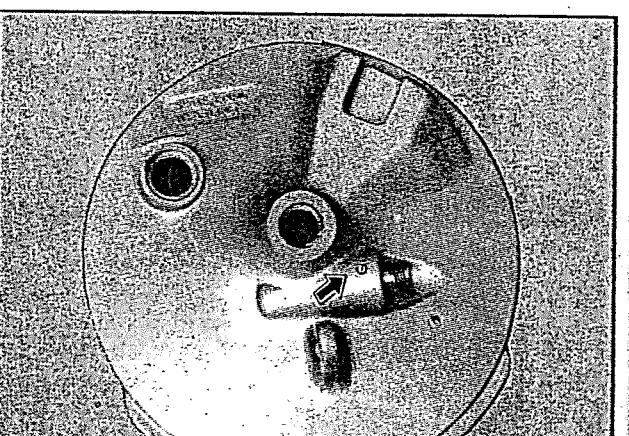

Fig 6.11
- Unscrew the securing screw of the bush (fig 6.11)